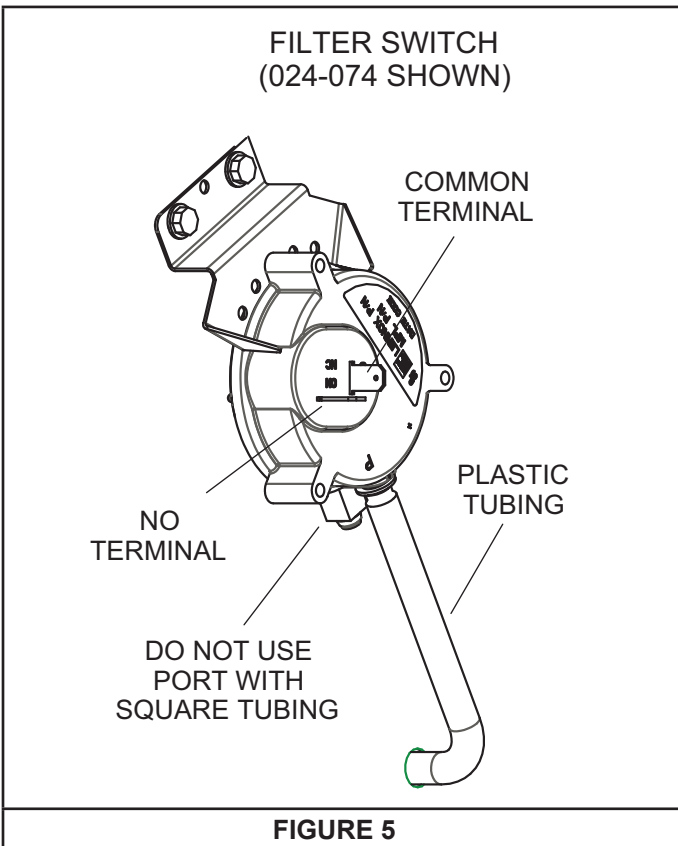

FIGURE 5
- 3 - Connect one end of plastic tubing to the filter switch port. See FIGURE 5. On 420-600 units, cut the 30" tubing (provided) to 18-1/2 ".
- 5 - Locate wires marked S27-C and S27-NO hanging near filter switch. Connect wire marked S27-C to the switch common terminal. Connect wire marked S27-NO to the switch NO terminal. See FIGURE 5.